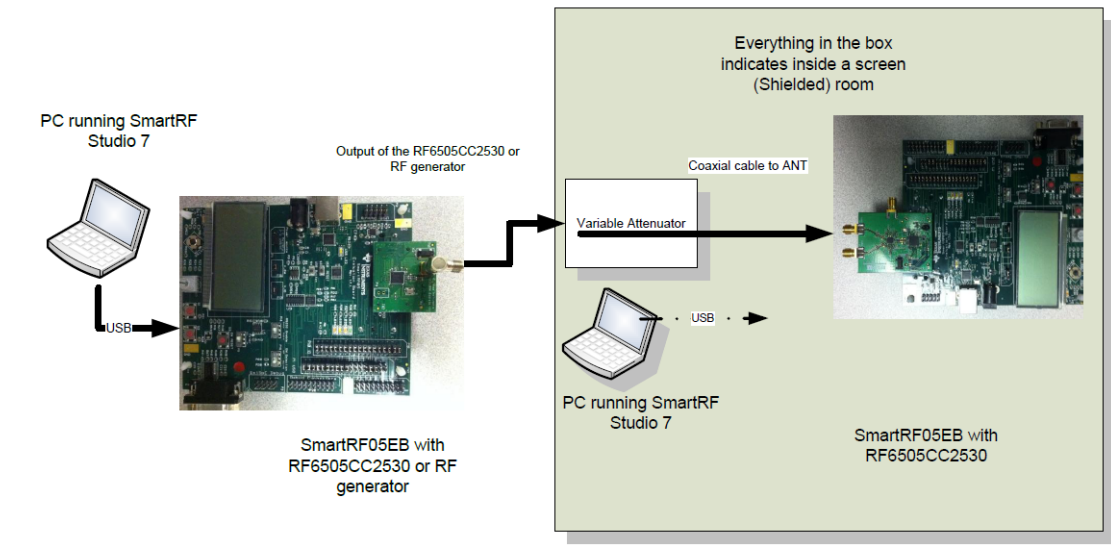

Figure 10-5 Block Diagram of PER Test Setup
- 1) Setup the equipment as shown in the block diagram in Figure 10-5.